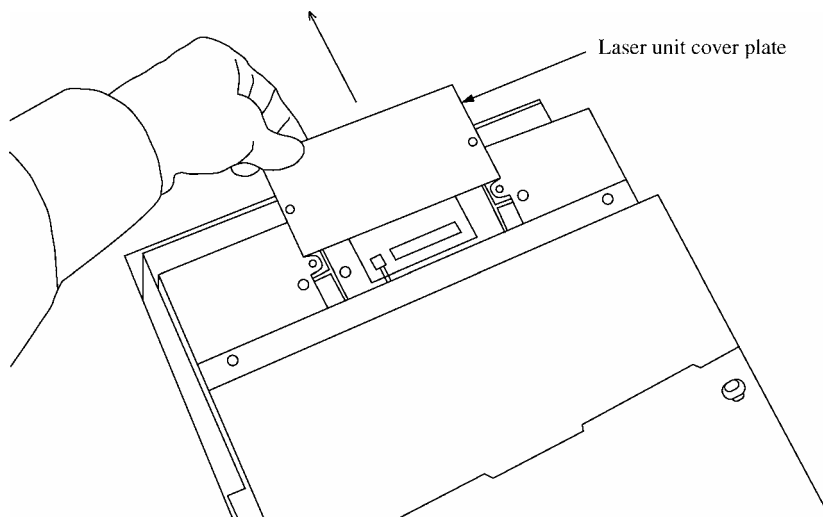

Figure 6.2-2
- (3) Remove the laser unit cover plate by sliding it in the direction of the arrow in Figure 6.2-2.